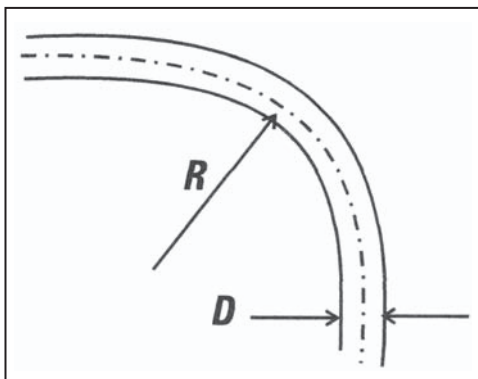

Figure 8 Bend Radius, R
Coiled lengths and long strings of PE fused pipe may be cold bent in the field. The allowable bend ratio is determined by the pipe diameter and the dimension ratio. See Figure 8 and Table 4. Because fittings and flange connections are rigid compared to the pipe, the minimum bend radius is 100 times the pipe's outside diameter (OD), when a fitting or flange connection is present in the bend. The bend radius should be limited to $100 \times OD$ for a distance of about 5 times the pipe diameter on either side of the fitting location.